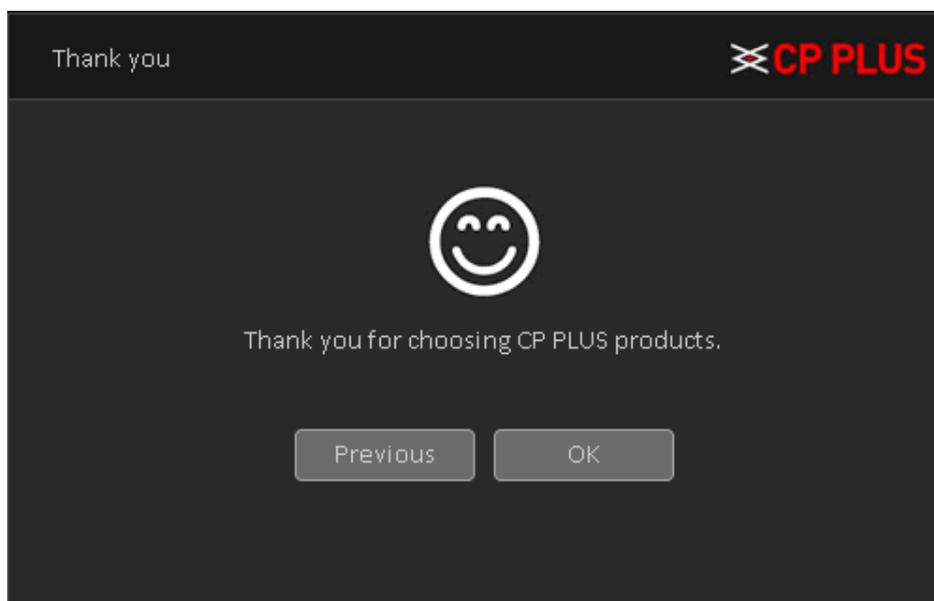

Figure 3.20
- Click Next button, system pops up a dialogue box. Click the OK button, the startup wizard is complete. See Figure 3.20